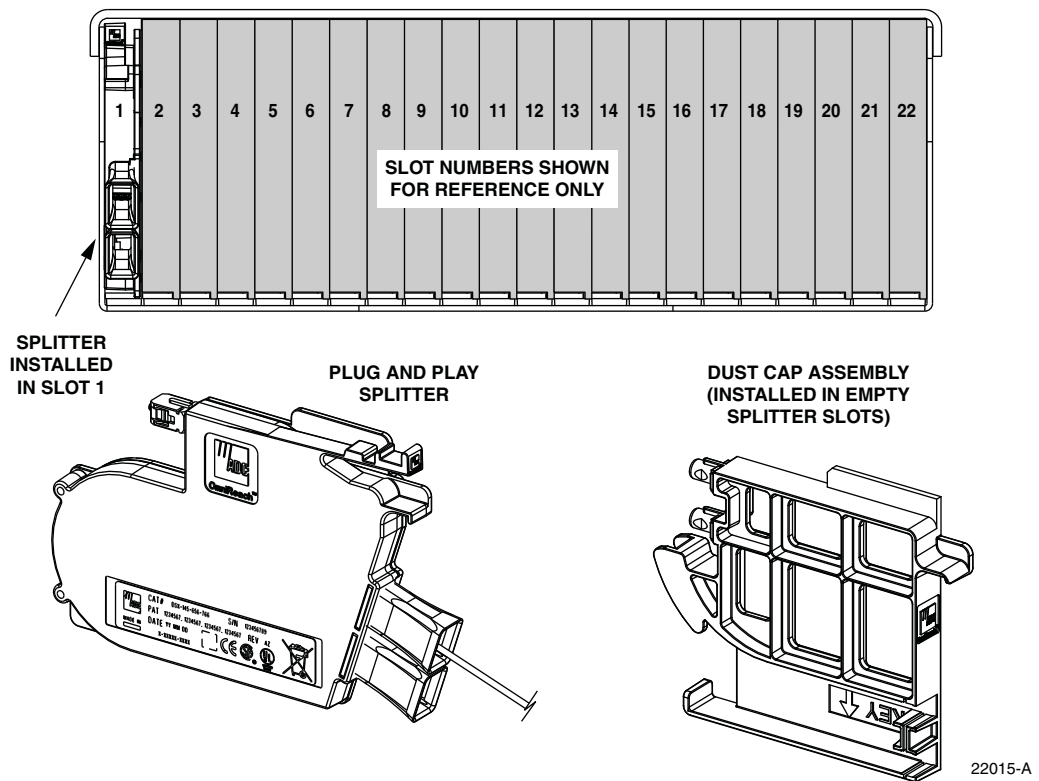

Figure 41. Splitter Module Installation
2. Locate the next available splitter mounting position as shown in Figure 41.